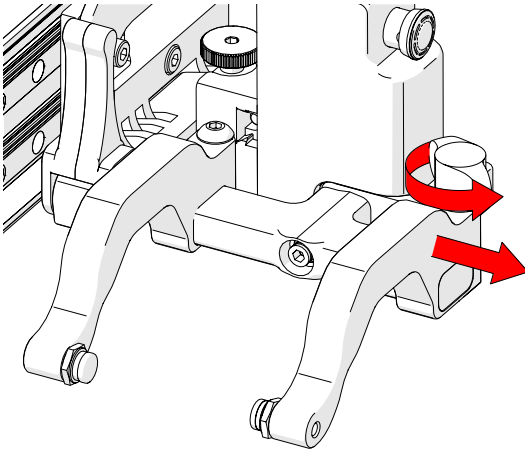

Fig. 90 - Remove outer arm
3. Loosen the probe holder adjustment knob and remove the outer probe holder arm (Fig. 90).
5. Place the wedge on the pivot button of the inner probe holder arm (Fig. 90).